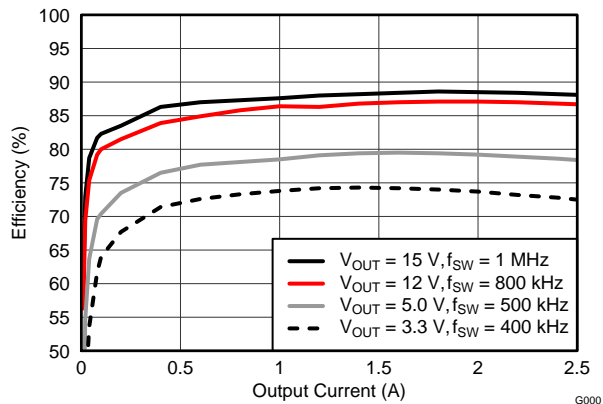
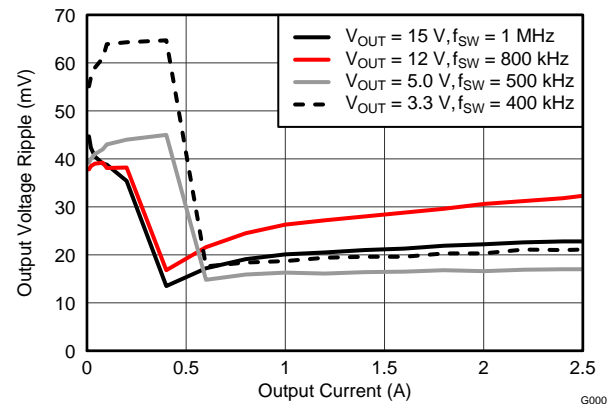
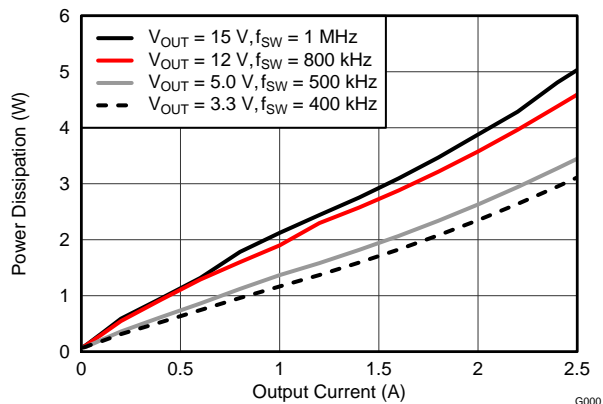

Figure 20. Efficiency vs. Output Current
Figure 21. Voltage Ripple vs. Output Current
Figure 22. Power Dissipation vs. Output Current
- (1) The electrical characteristic data has been developed from actual products tested at 25°C. This data is considered typical for the converter. Applies to Figure 20, Figure 21, and Figure 22.
- (2) At light load the output voltage ripple may increase due to pulse skipping. See Light-Load Behavior for more information. Applies to Figure 21.